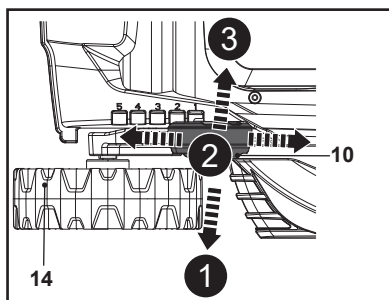

Fig. 10
1. Pull the lever for cutting height adjustment (10) towards the rear wheel (14) (Fig. 10, step 1).
2. Move the lever (10) forward or backward to adjust the cutting height (Fig. 10, step 2).
3. Release the lever (10) and ensure it engaged in the slot properly (Fig. 10, step 3).